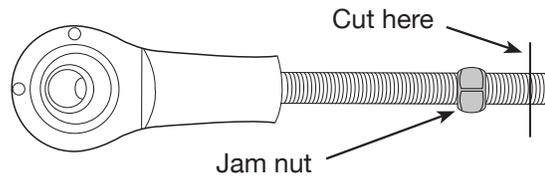

fig. 14
- Before cutting the rod, thread the jam nut back on the rod. Use the nut to deburr the rod end. (fig. 14).